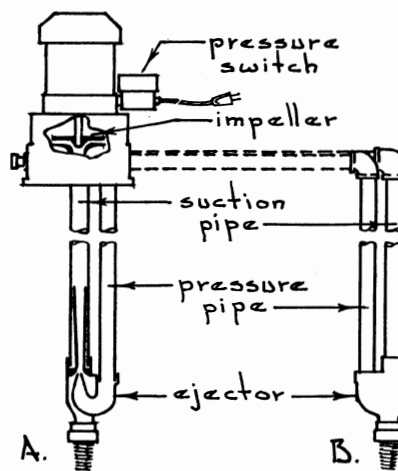

Fig. 13—This drawing of a deep well jet pump shows how the pump is located over, or offset from, the well.
**Jet Pump: (Deep Well)** The deep-well jet pump consists of a pump unit at ground level with the jet submerged in the well water. Figure 13 shows a typical deep well jet system. The pump may be located over the well, or offset from it.